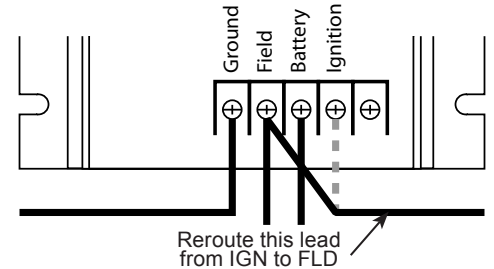

Figure 5: Reuse Existing FLD wire for IGN by Jumping Terminals
- 50-VR regulator without Deutsch connector. See Figure 5: Disconnect IGN lead at regulator IGN terminal and reconnect to FLD terminal on regulator. Torque screw to 1.4–1.7 Nm/12–15 lb. in.